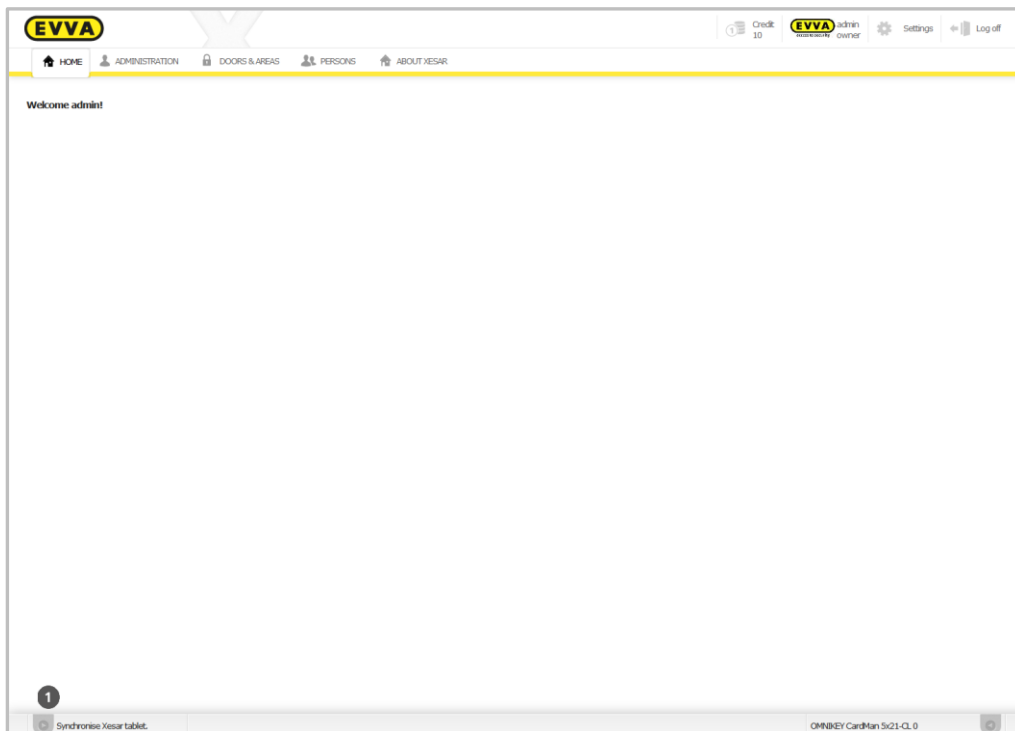

Figure 82: Synchronising data with the Xesar tablet
Connect your Xesar tablet to your PC and click ***Synchronise Xesar tablet*** ❶ (Figure 82: Synchronising data with the Xesar tablet) to start synchronisation.